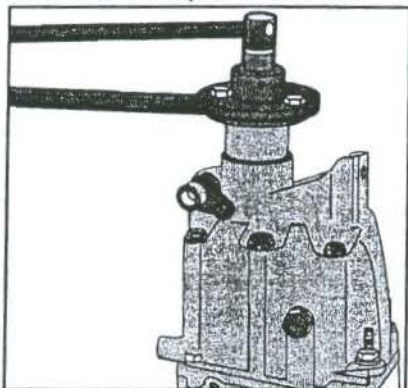

Fig. 3.7 – Remove the rear cover in the manner shown from the gearbox.
- The cover is now removed in the manner shown in Fig. 3.7 Note that the